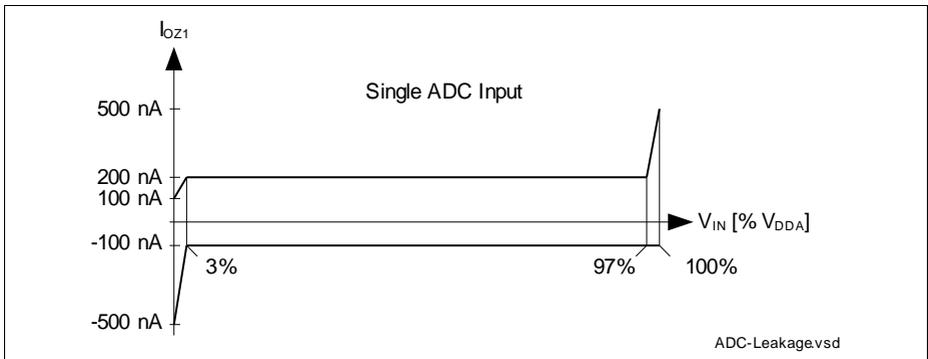

Figure 14 ADCx Analog Input Leakage Current
- 3) The leakage current definition is a continuous function, as shown in figure ADCx Analog Inputs Leakage. The numerical values defined determine the characteristic points of the given continuous linear approximation - they do not define step function (see Figure 14).